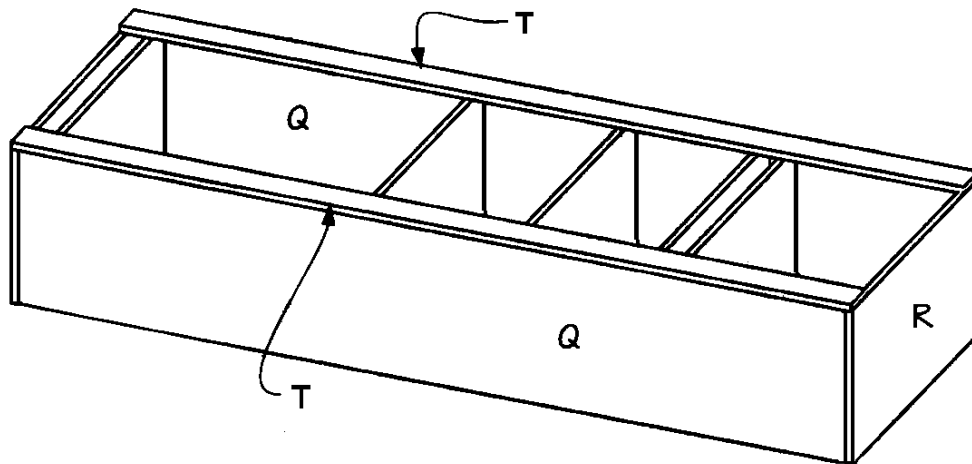
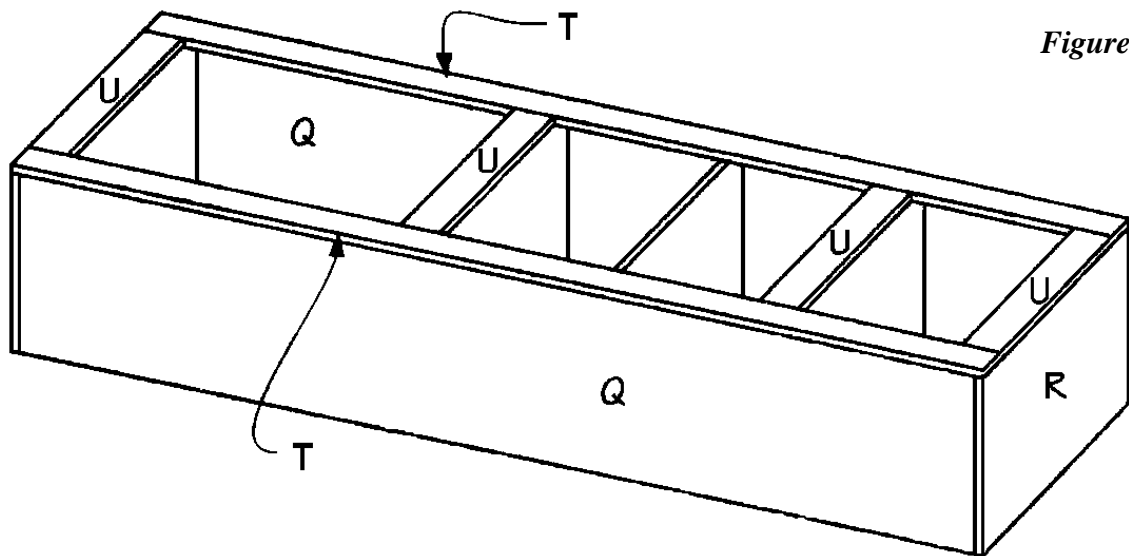

Figure 13
Figure 14
1. Cut two vertical trims (T) from 1 x 4 pine, each measuring 80 inches long.
2. Apply glue to the meeting surfaces and screw one vertical trim (T) to the edge of one side (Q), as shown in *Figure 13*. Use 1-1/2-inch screws spaced about every 5 inches.
3. Repeat Step 2 to attach the remaining vertical trim (T) to the opposite side (Q).
4. Cut four horizontal trims (U) from 1 x 4 pine, each measuring 23 inches.
5. Apply glue to the plywood edge and attach one horizontal trim (U) over the edge of the top (R), as shown in *Figure 14*. Screw through the horizontal trim (U) into the edge of the top (R) using 1-1/2-inch screws about every 6 inches.
6. Repeat Step 5 to attach the second horizontal trim (U) over the edges of the second and third shelves (S).
7. Attach the third horizontal trim (U) flush with the top surface of the fourth shelf (S).
8. Attach the fourth horizontal trim (U) over the edges of the fifth shelf (S) and the bottom (R).
9. Cut one molding trim (V) from 3/4-inch-wide rope molding, measuring 23 inches long.
10. Apply glue to the meeting surfaces and nail the molding trim (V) over the exposed edge of the third shelf (S). Nail it in place using 1-inch (2d) finishing nails spaced about every 5 inches.